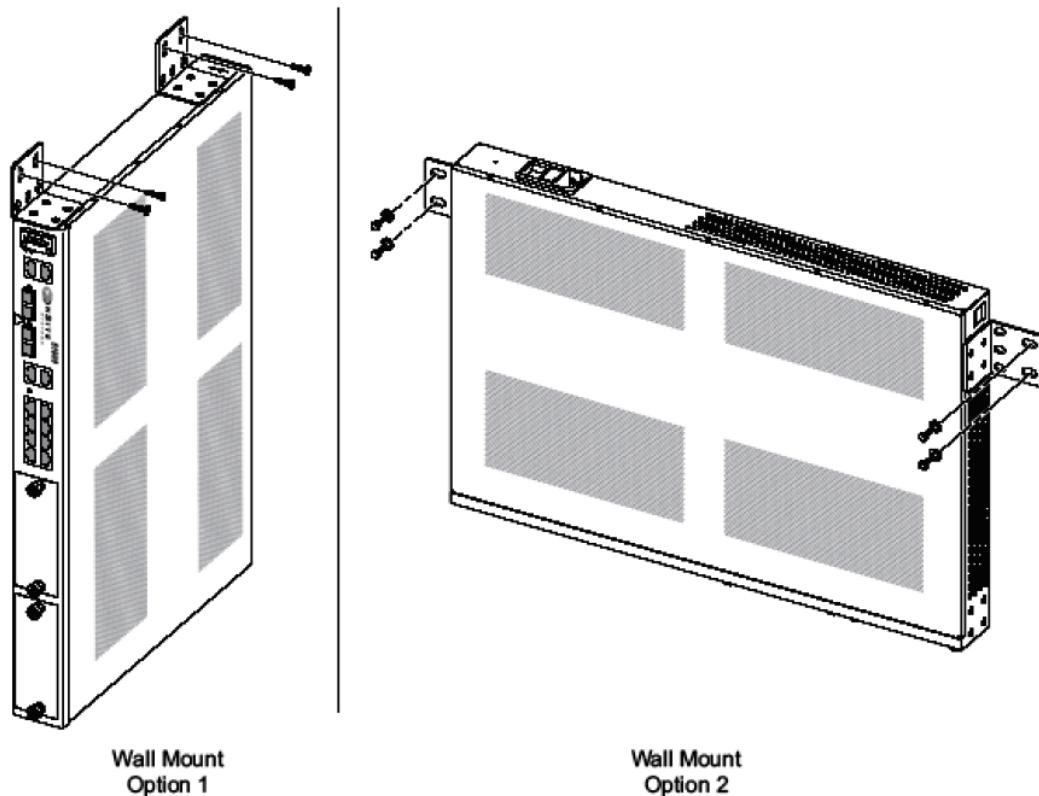

Figure 12. Mounting the OS-10 System Chassis on a Wall
1. Install the two L mounting brackets in the orientation shown in Figure 12. Insert and fully tighten the screws to secure the brackets to the chassis (four screws for each bracket). Use a suitable screwdriver for this task.
2. Position the chassis against the wall using wall mount option 1 or option 2, as shown in Figure 12.